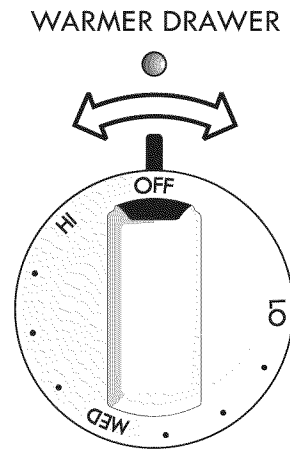

Fig. 1
The thermostat control knob is used to select the temperature for the warmer drawer. It is located on the control panel. The temperatures are approximate, and are marked LO, MED and HI (See Fig. 1).
4. Push in and turn the warmer drawer control knob in either direction to the desired temperature setting (See Fig. 1).